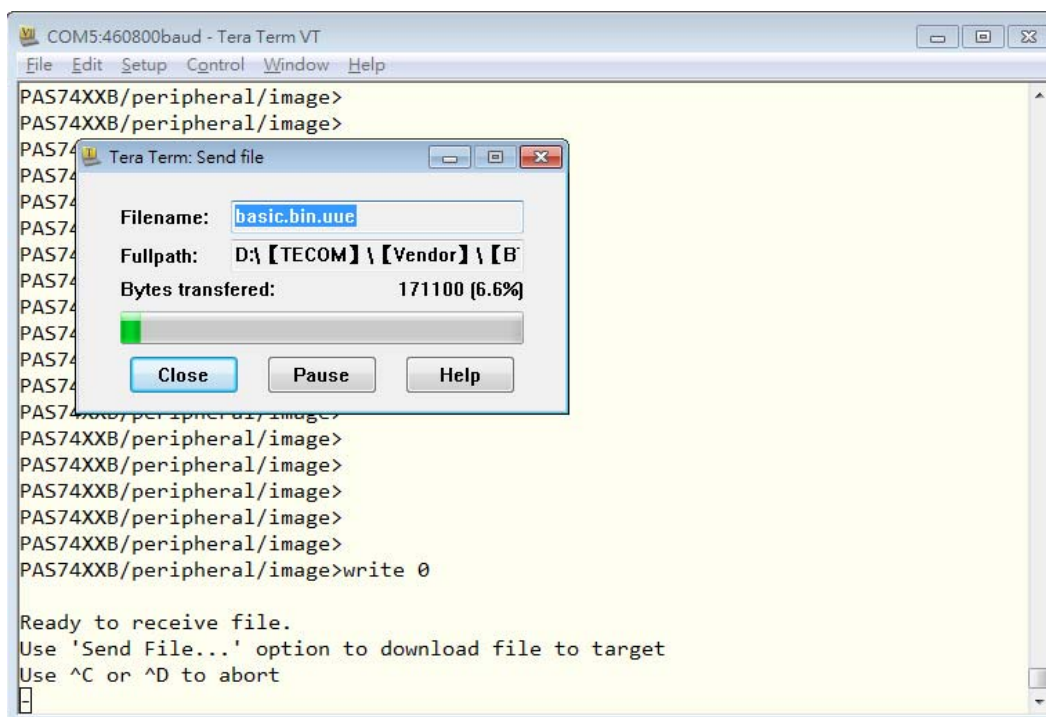

Figure.11 Downloading the file.
10. Please press “Send file” and you could see that the file is downloading as figure 11.